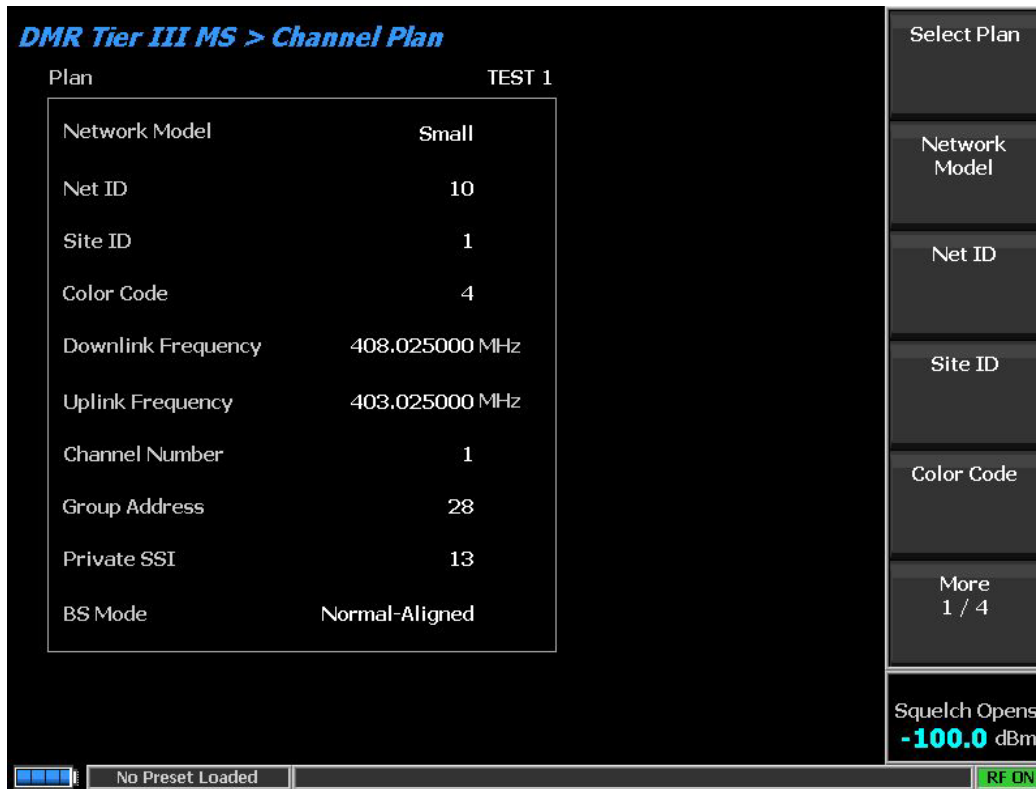

Figure 24 – TEST 1 Channel Plan
13. Save the plan as TEST 1. The indication at the top of the Channel Plan window will display the TEST 1 plan name (see Figure 24).